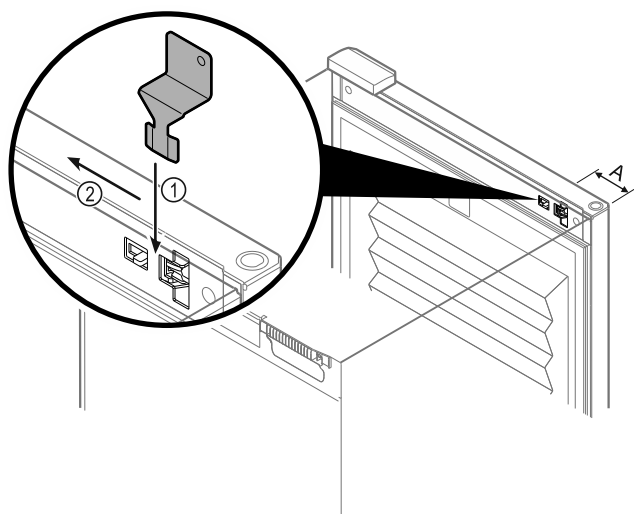

Fig. 63
- Insert the emergency release key in the specified position Fig. 63 (A) ≈ 100 mm (3 15/16 in).
- Insert the emergency release key Fig. 63 (1) from the top between the door and device body until it reaches the stop.
- Pull the emergency release key in the direction of the hinge. Fig. 63 (2)